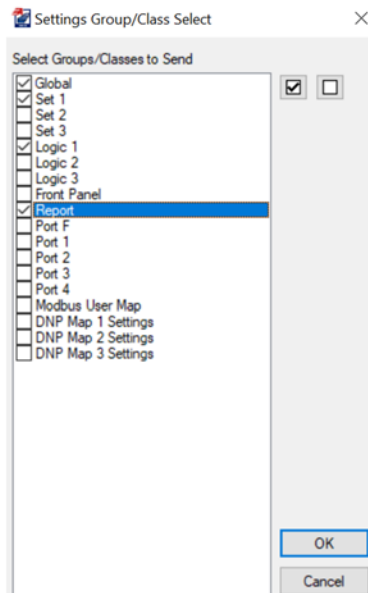

Figure 45: Select Settings to Send to
18. Select Global, Set 1, Logic 1, and Report as shown in Figure 45 and click OK.